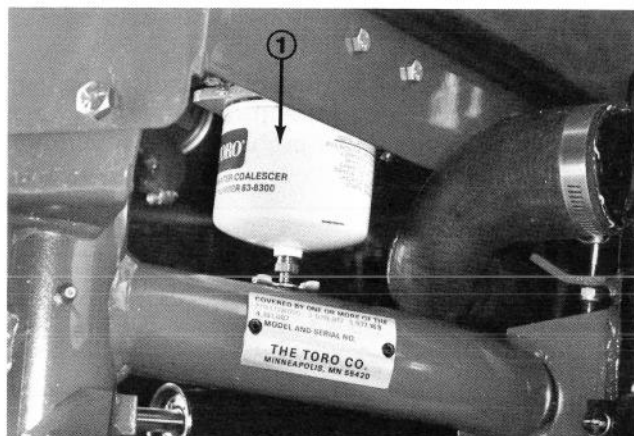

Figure 20
- 1. Locate fuel filter/water separator at right rear under fuel tank (Fig. 20).